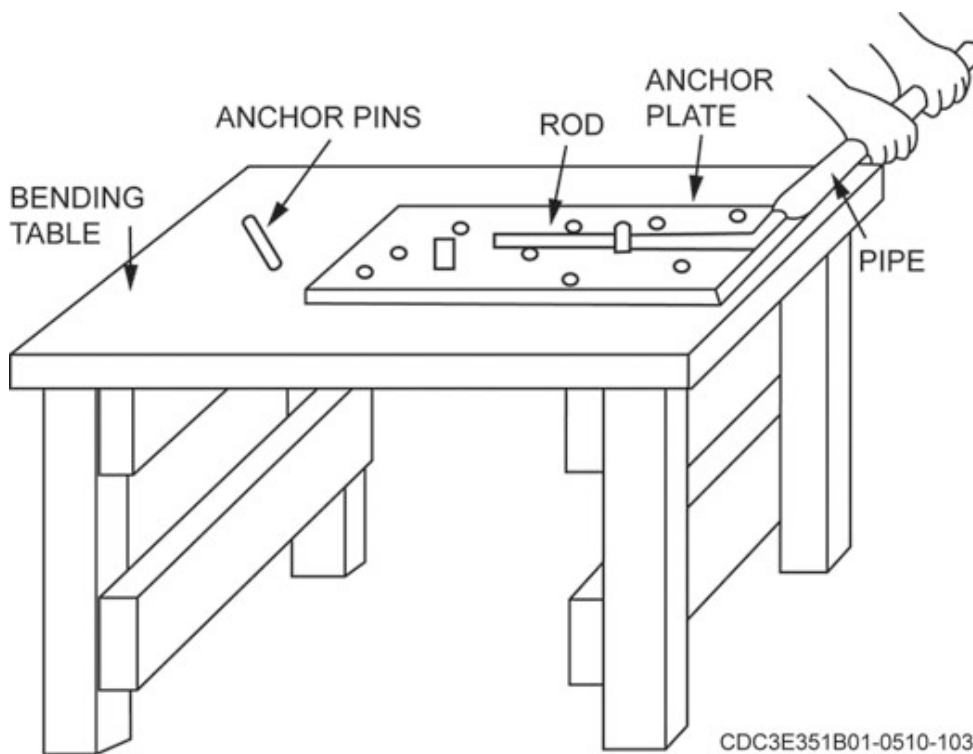

Figure 1-32. Bar-bending table.
- When numerous reinforcing rods with various lengths and shapes are required, bend them on a *bar-bending table* (fig. 1-32).